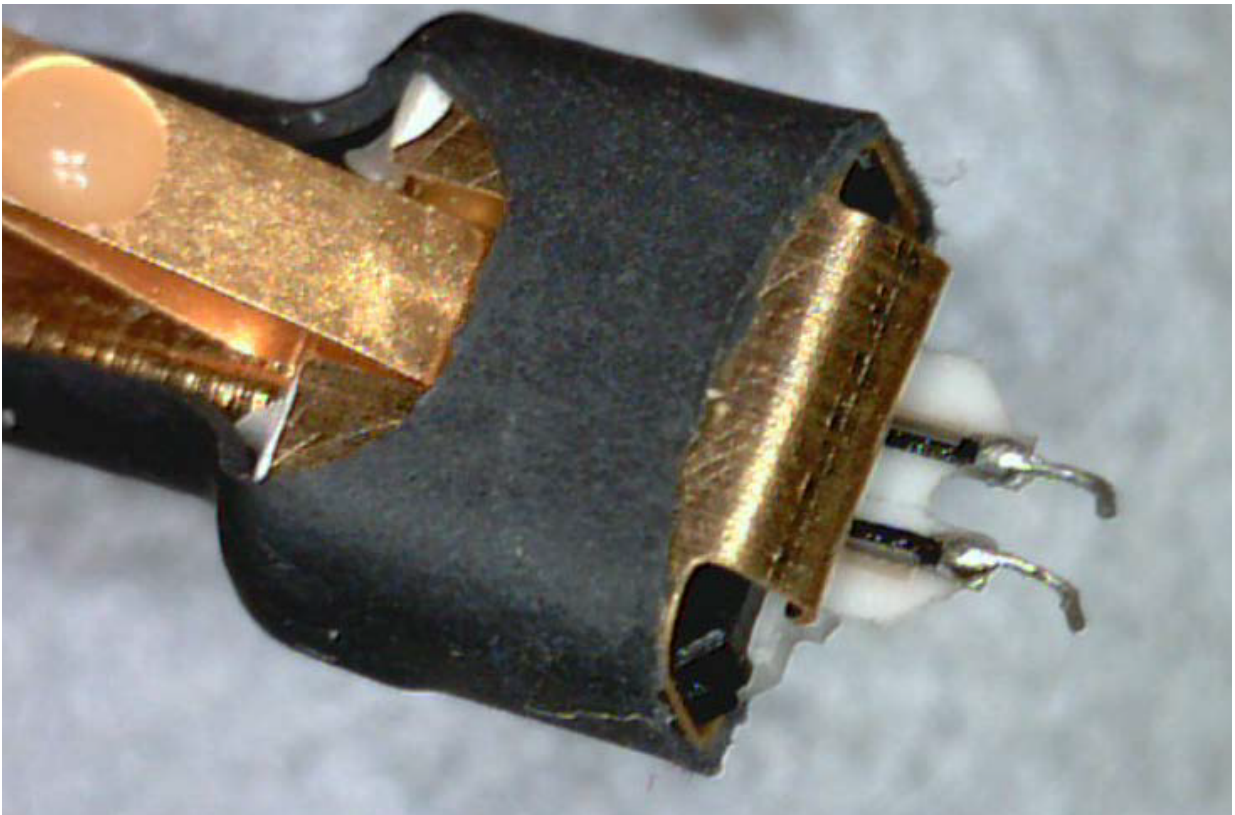

Figure 1
- 2 Prepare the 5439A Zif probe head for connection to the PV fixture as shown in Figure 1.